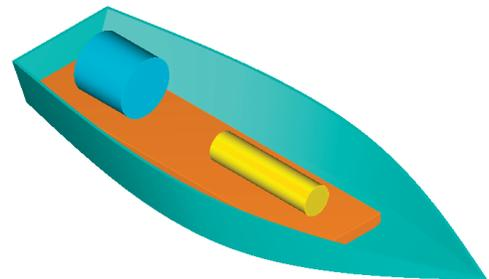

Fig. 16
Step 10. Set: Distance = 2 and click OK, **Fig. 16**.